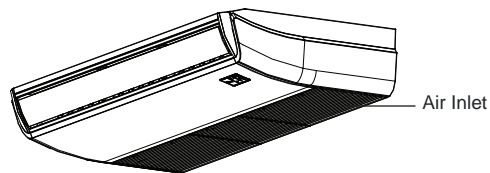

Fig.6-1
- Open the air intake with the screwdriver or something like that .(Refer to Fig.6-1)